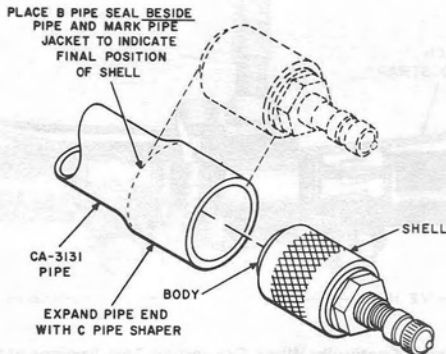

Fig. 13—Placing B Pipe Seal
(2) Using the B pipe seal as a gauge (Fig. 13), mark the feeder pipe jacket for depth of insertion.
(3) Loosen the nut of the B pipe seal to allow the shell to slide approximately 1/16 inch. Insert the seal into the prepared pipe end and verify the depth of insertion by checking against the mark made on the pipe jacket. Also check the position of the body inside the pipe by pressing it firmly into the pipe end. If the rubber bushing is too tight, it **may** be necessary to moisten the bushing.
(4) Tighten the nut against the slip washer with a 9/16-inch socket from the D wrench kit.